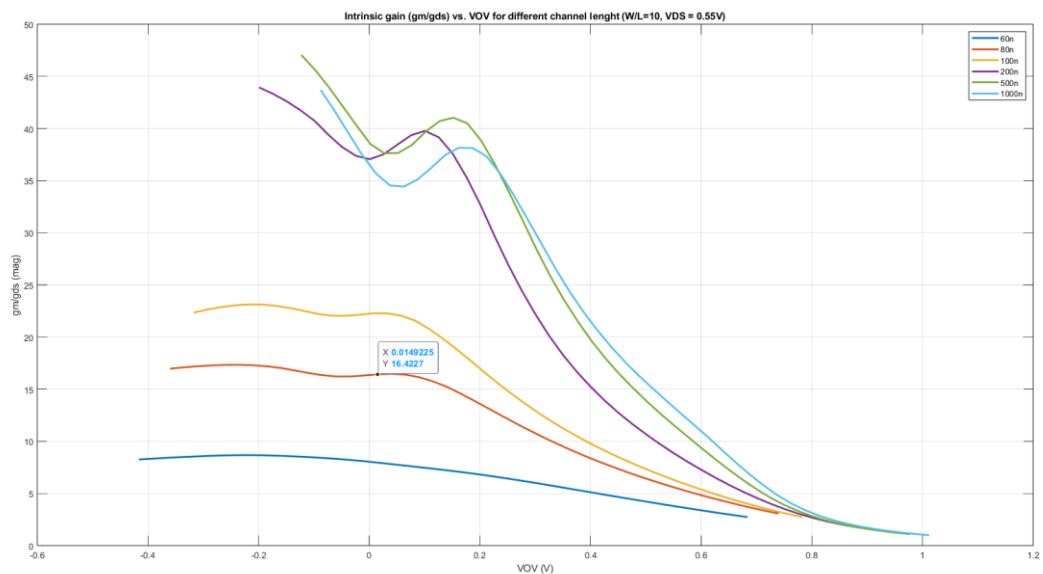

Figure 1: $\frac{g_m}{g_{ds}}$ vs V_{OV} across gatelength L - NMOS
- Then, the chosen length must be smaller than L_5 and because Mp5 is a current mirror, we already know that for Mp5 we'll take a long channel ($L_5 = 1000nm$). With this length L_6 and V_{OV6} , we must achieve the second stage gain $A_{V2} = 16.4227$. All of this leads us to the following choices using the graph on **Figure 1**: